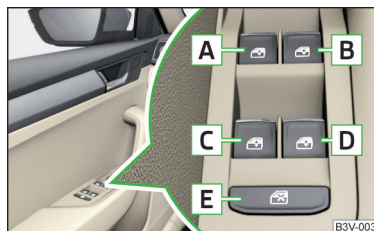

Fig. 48
**Power window buttons** » Fig. 48
➤ Press the button **E** » Fig. 48.
After the driver's or passenger's door is opened the operation of the window is only possible with the button **A** » Fig. 48, in which case they have to be pressed or pulled for approx. 2 seconds.
- Switch off the ignition, open the driver's door and hold the key **A** until it stops in the open position » Fig. 48 on page 62.
- Switch off the ignition, open the driver's door and hold the key **A** until it stops in the closed position » Fig. 48 on page 62.